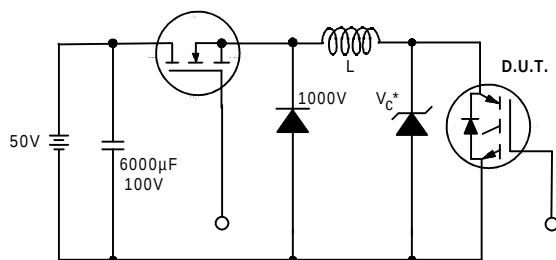

Figure 19. Clamped Inductive Load Test Circuit
- ② $V_{CC}=80\%(V_{CES})$, $V_{GE}=20V$, $L=10\mu H$, $R_G = 23\Omega$ (figure 19)
- ③ Pulse width $\leq 8\mu s$; duty factor $\leq 0.1\%$.
- ④ Pulse width $5.0\mu s$, single shot.
- ⑤ $t = 60s$, $f = 60Hz$